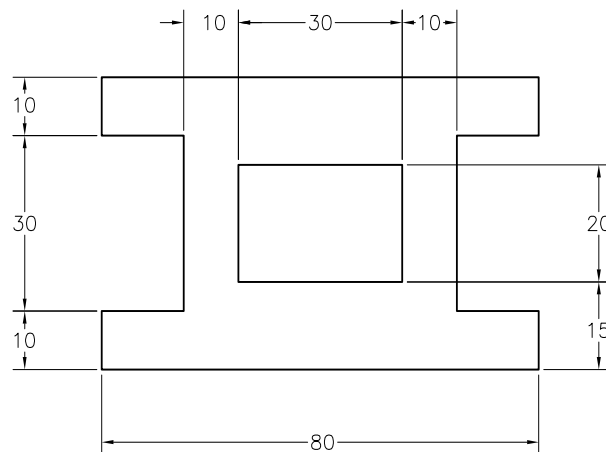
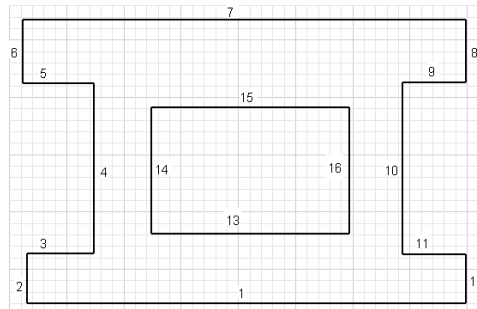

Figure 3-48 Dimensioned sketch for Tutorial 1
Figure 3-49 Initial sketch drawn using the sketching tools
In this tutorial, you will draw the sketch shown in Figure 3-48. This sketch is the same as the one drawn in Tutorial 2 of Chapter 2. After drawing the sketch, you will add the required constraints and then dimension it. **(Expected time: 30 min)**
- b. Draw the initial sketch by using the **Line** and **Two point rectangle** tools, refer to Figure 3-49.
1. Using the **Line** tool and the **Two point rectangle** tool, draw the required sketch similar to the one shown in Figure 3-48. You do not need to draw the sketch to the exact length. Use the temporary tracking option for drawing the sketch. For your reference, all lines in the sketch are numbered, see Figure 3-49.
It is evident from Figure 3-49 that some of the lines need to be of the same length. For example, lines 1 and 7, lines 2 and 6, lines 8 and 12, and so on need to be of the same length. You can do so by using two options. In the first option, you can assign dimensions to all these lines. However, this will increase the number of dimensions in the sketch. In the second option, you can apply constraints that will force the lines to maintain an equal length. You can apply the **Equal** constraint to all lines that have the same length. This
1. Choose the **Dimension** tool from the **Constrain** panel of the **Sketch** tab. Alternatively, right-click anywhere in the graphics window and then choose **General Dimension** from the Marking menu displayed. Select line 1, refer to Figure 3-49.